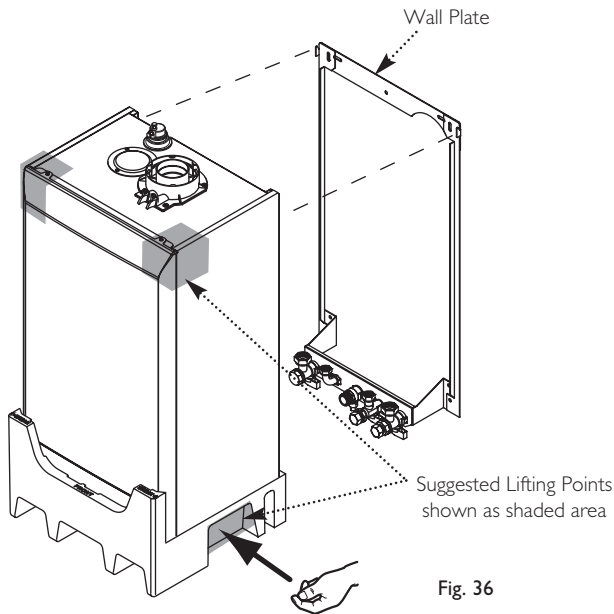
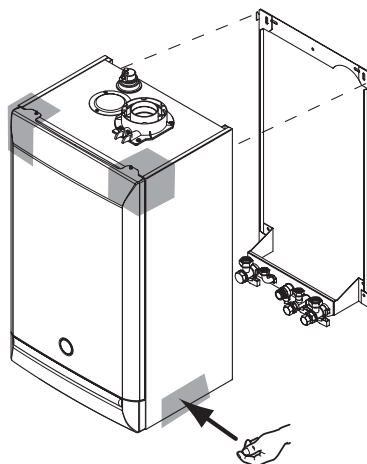

Fig. 36
Fig. 37a
1. Lift the boiler using the Lifting Points as shown by the shaded areas (Fig. 36 or Fig. 37a). The boiler should be lifted by TWO PEOPLE. Engage the slots at the top rear of the boiler on the wall plate (Fig. 36) (see **Safe Manual Handling** page 5).